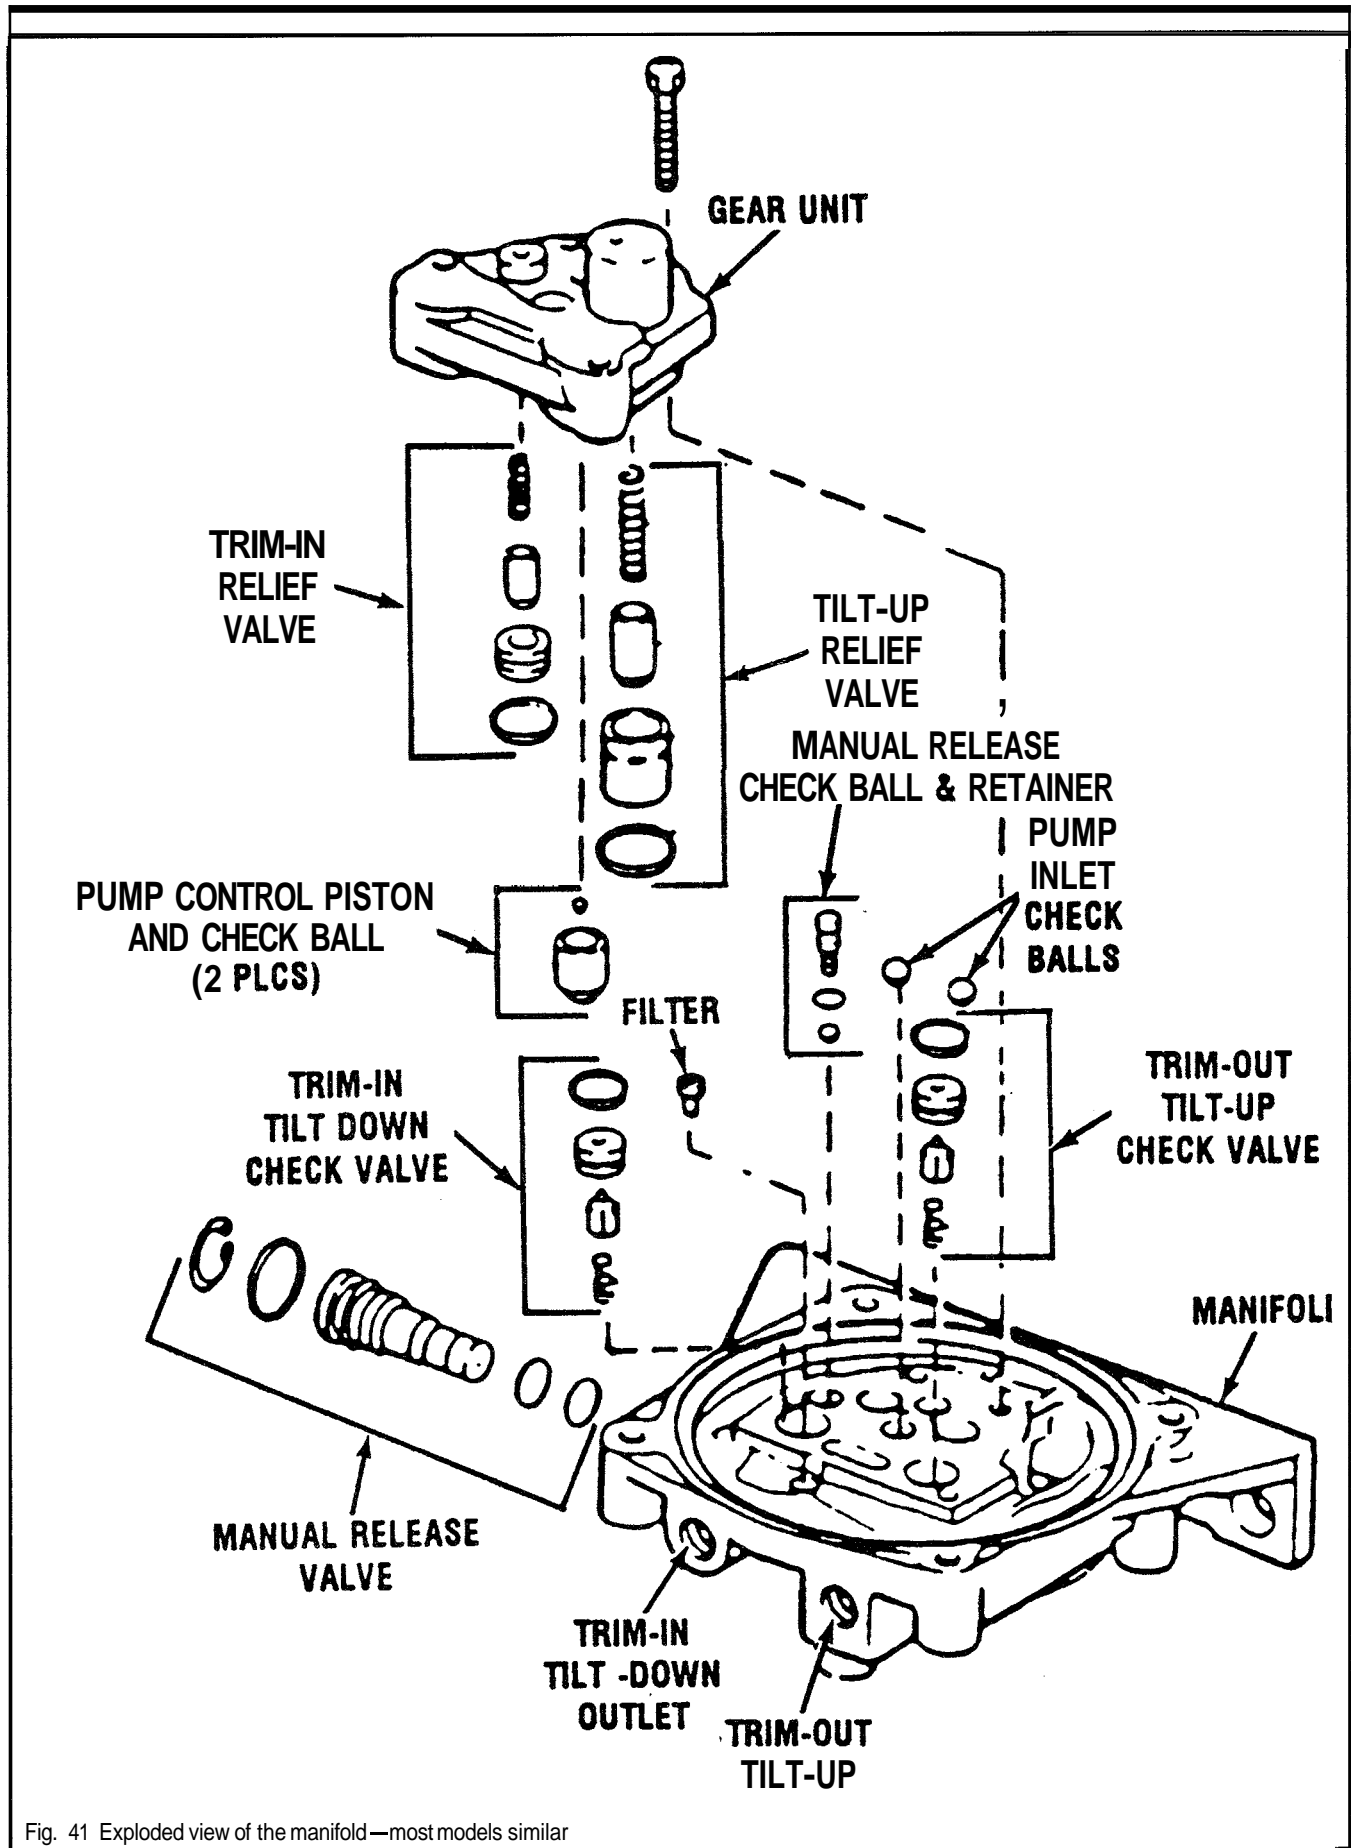

Fig. 41 Exploded view of the manifold—most models similar
† See Figure 41
◆ See Figure 41
◆ See Figures 41 and 42
- ◆ See Figure 41